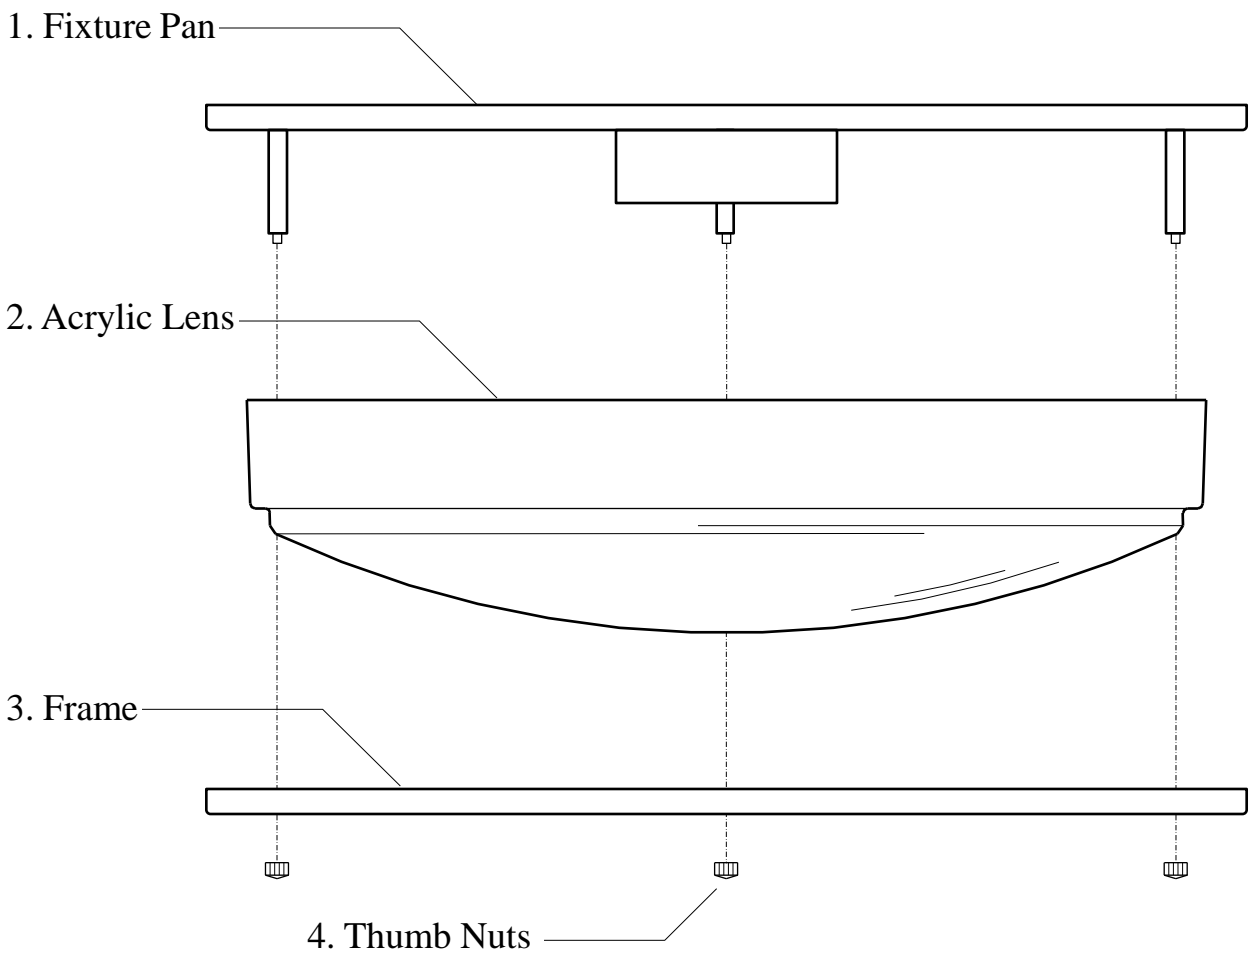

Fig. 4
- 6. Secure the Acrylic Lens (#2) and Frame (#3) to the Fixture Pan (#1) using the Thumb Nuts (#4), as shown. **(Fig. 4)**